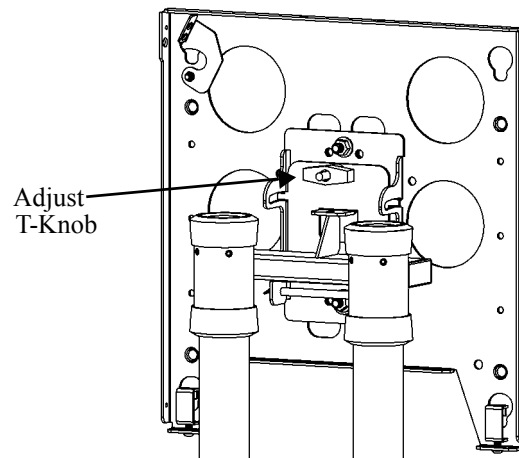

Figure 9. Adjust Pitch
- a. Adjust pitch downward by turning the T-knob counterclockwise. For T-knob location, see Figure 9.